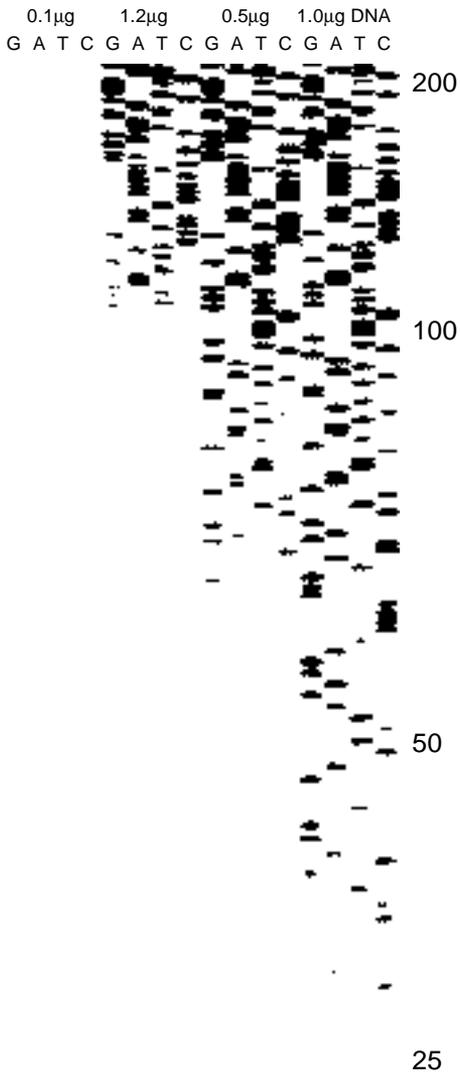
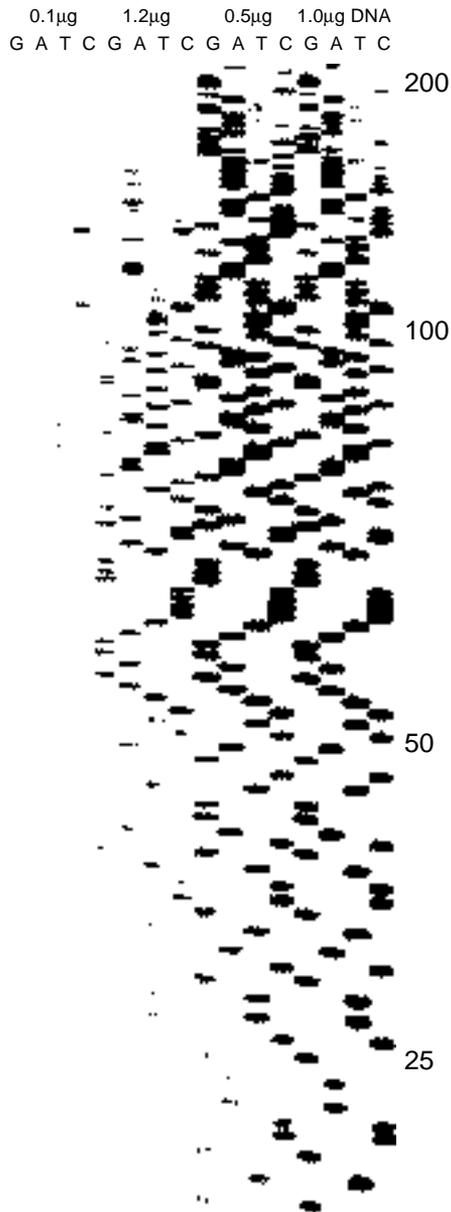

Figure 1. Normal sequences with Mg^{2+}
Figure 2. Sequences with Mn buffer
Mn Buffer method—The general conditions will generate sequencing ladders which are faint or absent for nucleotides close to the primer if limited amounts of DNA (less than 0.5pmol or approximately 1µg of M13) are used for the reactions (Figure 1). A solution to this situation is to add Mn Buffer. This reagent takes advantage of the activity of Sequenase Version 2.0 DNA polymerase in the presence of Mn²⁺ ions (17). The addition of Mn²⁺ to normal (Mg²⁺) sequencing reactions (with fixed deoxy- to dideoxy- ratios) reduces the average length of DNA synthesized in the termination step, intensifying bands corresponding to sequences close to the primer. With Mn²⁺, sequences from less than 20 nucleotides from the primer up to approximately 200 nucleotides can be observed even with reduced amounts of template (Figure 2).